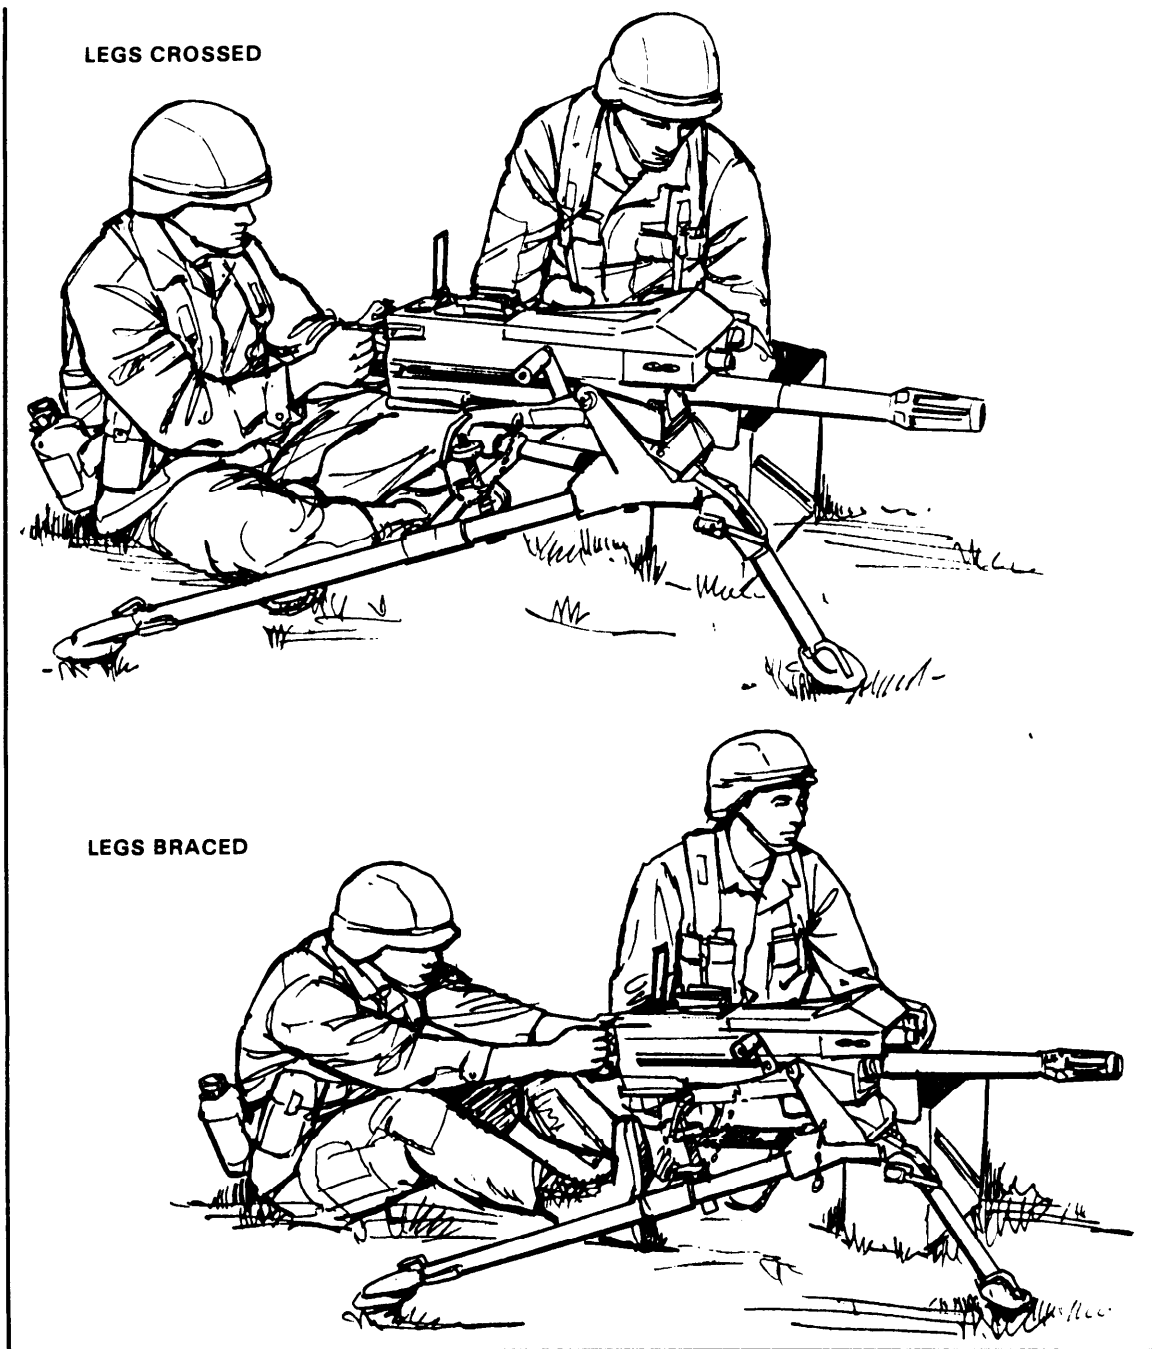

Figure 5-1. Seated firing positions.
- a. Sitting. When the tripod is used in the low or high position, sit directly behind the gun between the trail legs of the tripod. Extend the legs under the tripod, cross them, or brace the feet on the tripod (Figure 5-1). Place the elbows on the inside of the thighs for support when crossing the legs or bracing the feet on the tripod.